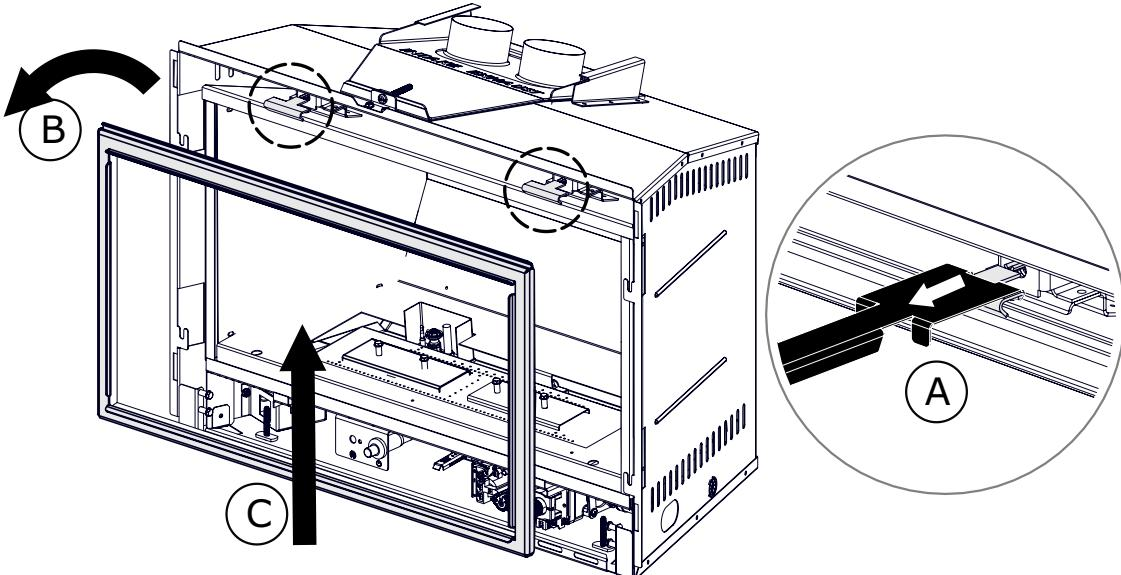

Fig. 3-2
2. Release the top left and right door latches, located at the top of the door (**Fig. 3-2**). Tilt forward and lift from slots.